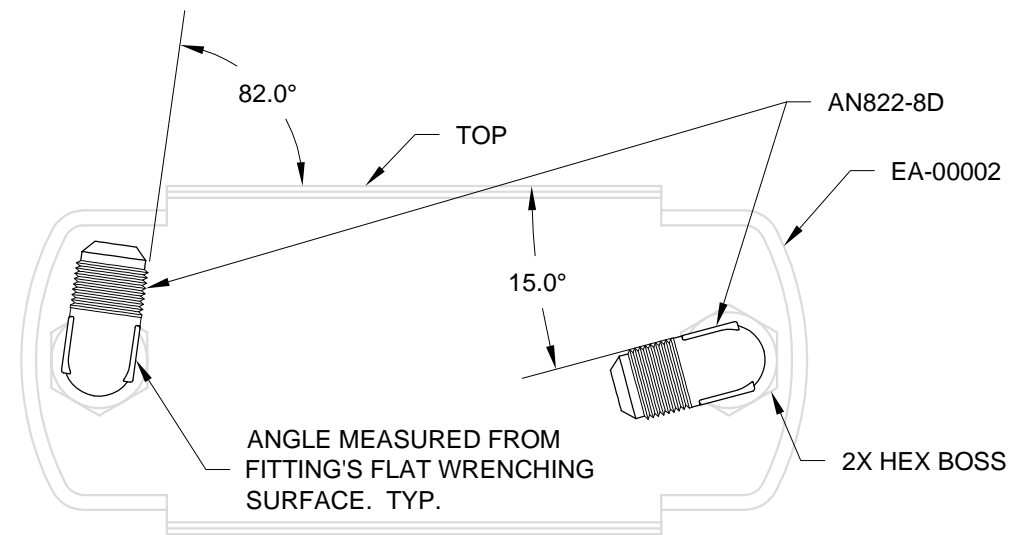

FIGURE 1: OIL COOLER FITTINGS INSTALLATION
Step 1: (Tri-Gear) Install the two elbow fittings into the EA-00002 Oil Cooler 2006X as shown in Figure 1.